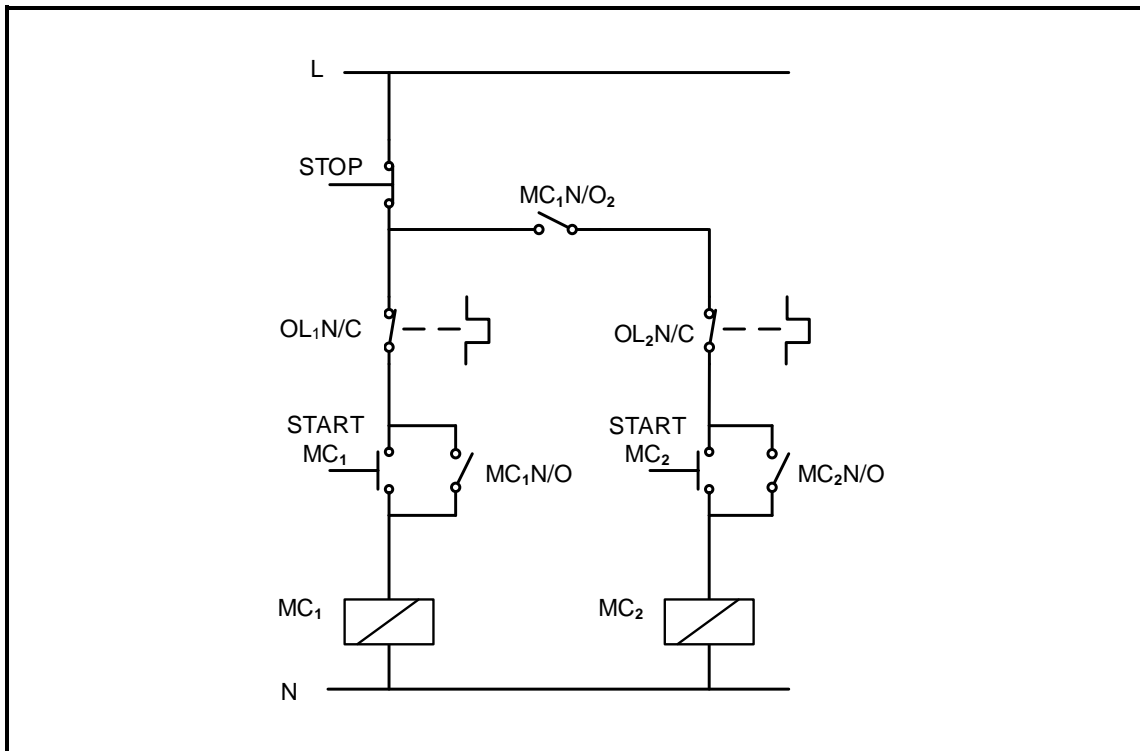

FIGURE 6.10: CONTROL CIRCUIT OF A MANUAL SEQUENCE STARTER (10)
6.10 FIGURE 6.10 below shows the control circuit of a manual sequence starter. Draw the PLC ladder logic program that will execute the same function.